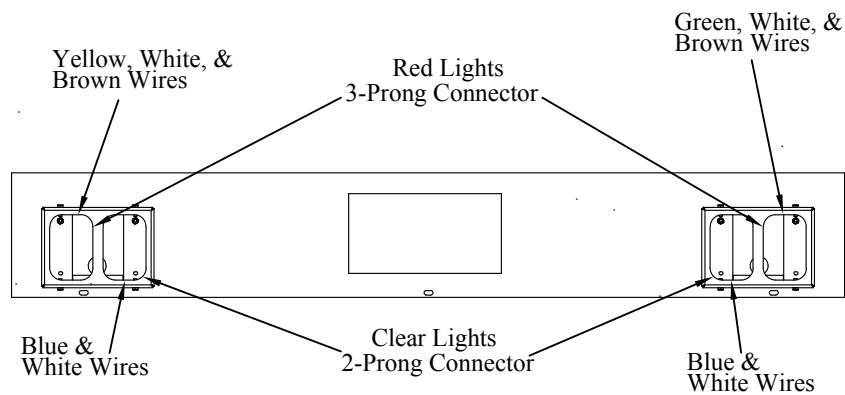

Figure 8
Step 10. Pull harness clips through the inserted grommets. Connect the clips to lights (Figure 8).